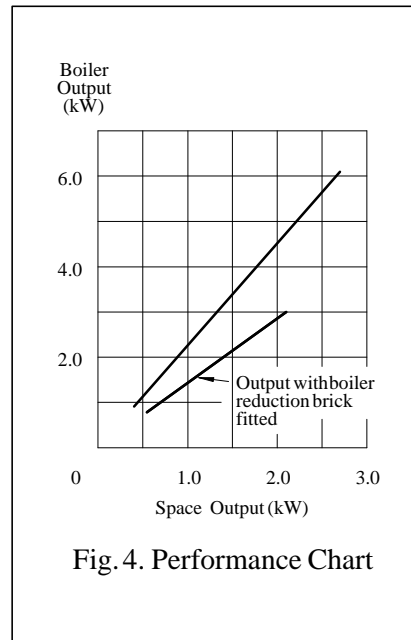

Fig. 4. Performance Chart
- b) the throat plate is fitted correctly (see Fig. 4.) and that it is not distorted.
water as shown in Fig. 4. This means that if the water heating load is less than the rated output then the room heating will be reduced by the same proportion. This must be borne in mind when calculating the heating requirements.
If the fire is used to heat a small central heating system then the heat output to the room from the fire will be reduced. Fig. 4. shows the ratio of space heating to water heating which